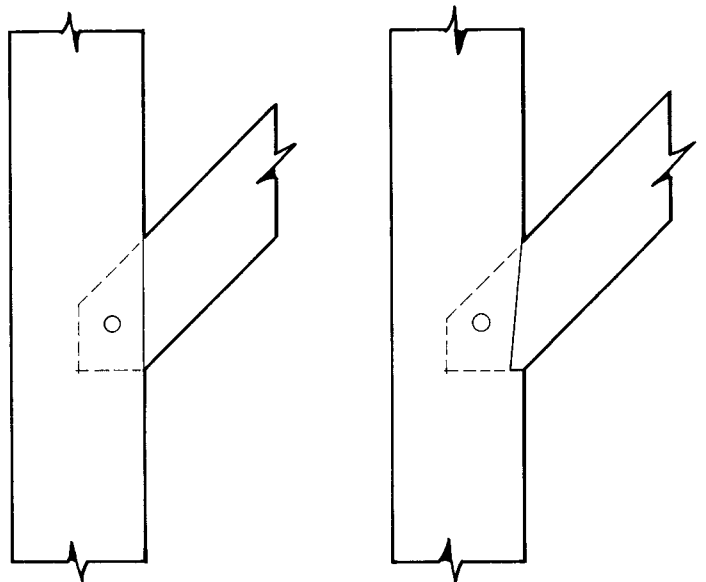

Fig. 8. Scribe rule braces: non-bearing shoulder on the left, diminished bearing shoulder on the right.
**Tenoned Braces.** The vast majority of tenoned braces are barefaced, as with studs and girts. Braces in frames built using the earlier scribe rule system might have no bearing shoulder (Fig. 8, left) or a diminished bearing shoulder (Fig. 8, right). The latter configuration is clearly superior, adding to the tenon end an addi-